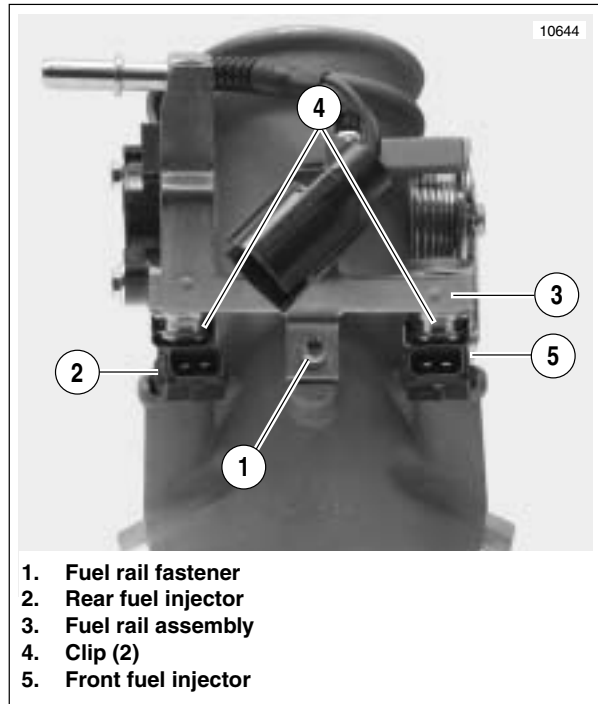

Figure 4-106. Fuel Injectors
- a. See Figure 4-106. Remove both injector clips (4).
6. See Figure 4-106. Install fuel injectors.
- b. Press the fuel rail assembly (3) onto the top of the injectors.
- c. Apply a drop of LOCTITE 271 (red) to threads of fuel rail fastener (1).
7. Snap the injector clips (4) over the flange on the fuel rail outlet and into the top groove in the injector.